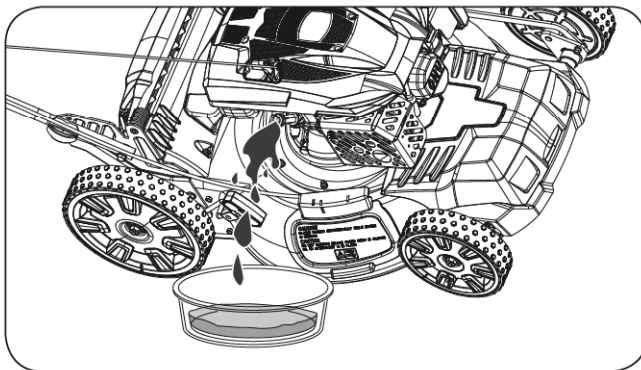

Figure 19
4. Tip the machine onto its side (so that the air filter is up) to drain the used oil from the oil-fill tube. (See **Figure 19**)